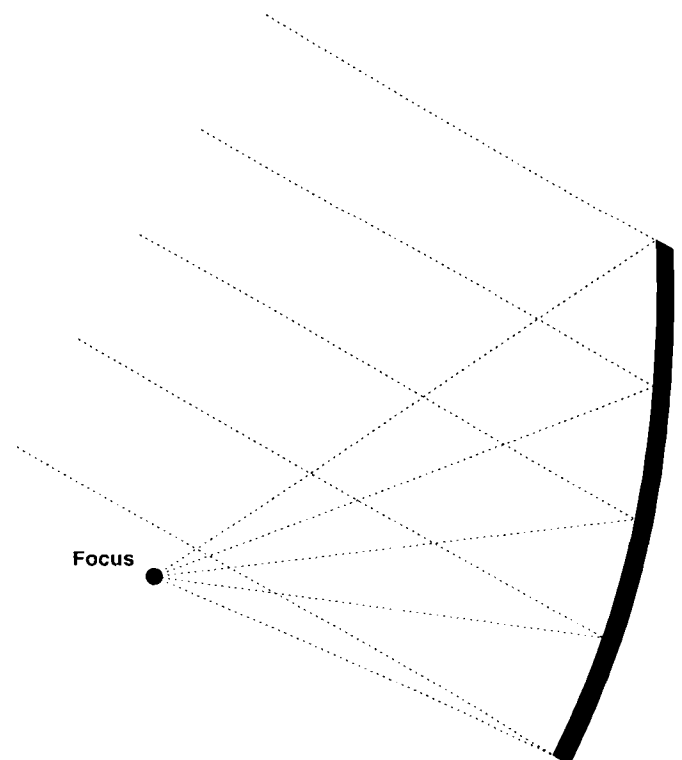

Fig 2—An offset-fed parabolic dish antenna aimed at a satellite.
2. An 18-inch DSS offset-fed dish at 10 GHz, with measured gain of 32.0 dB and efficiency of 63%. The spillover efficiency should be comparable, but with the offset dish pointing at a high elevation, as shown in Fig 2, far less of the spillover is illuminating warm earth. If we estimate 20%, then 8 K is added to the 6 K of sky noise, for a total of 14 K. In a 500-Hz bandwidth, the noise output is  $-160 \text{ dBm}$ .